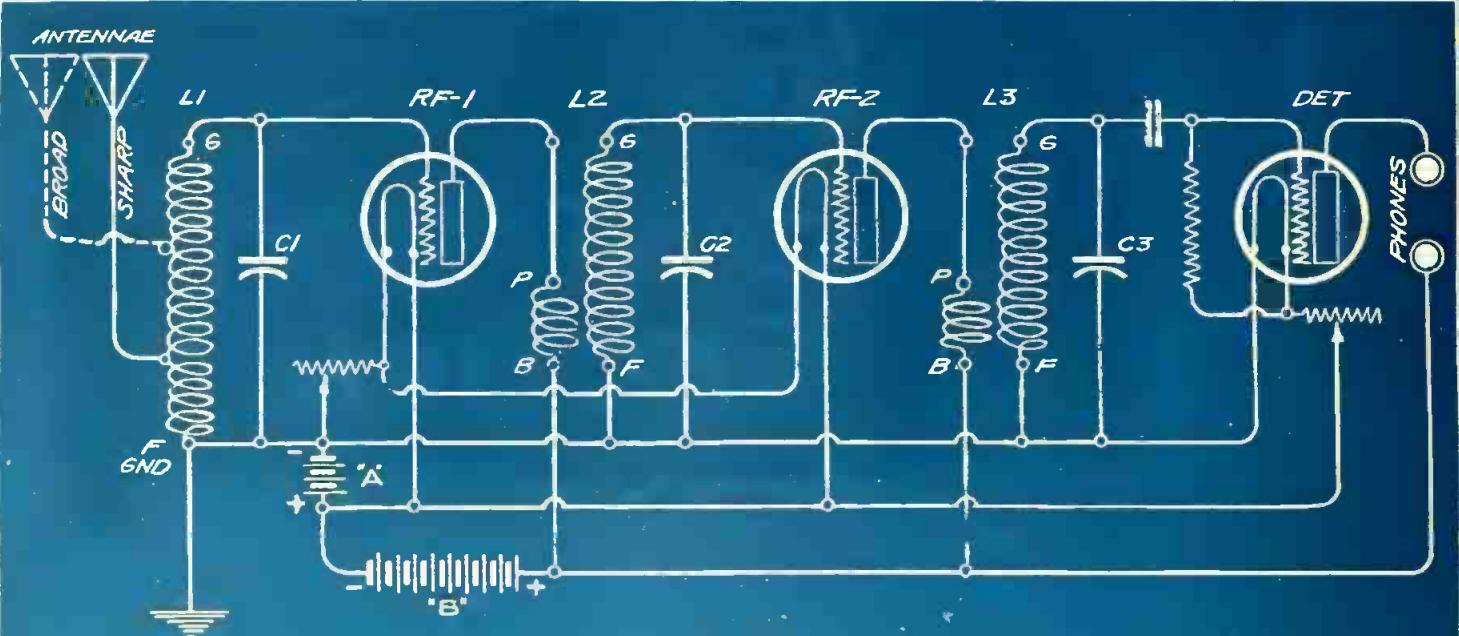
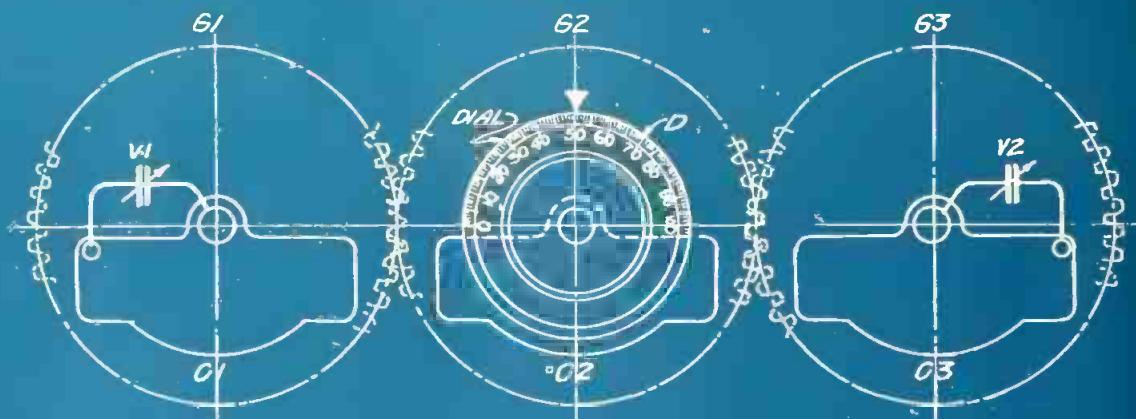
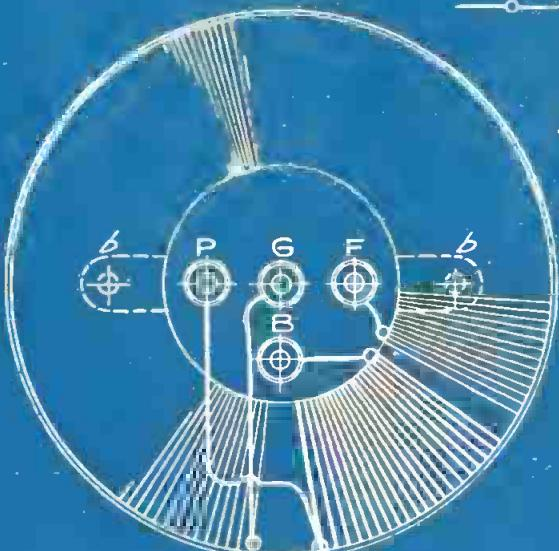

FIG.1
FIG.2
FIG. 7
BEFORE the various tuning methods can be taken up in detail, it will be advisable to examine the circuit diagram of a conventional two stage radio frequency circuit so that the conditions can be more fully understood. In Fig. 1 is shown the circuit of two tuned radio frequency stages and detector, the radio tubes being at (RF-1) and (RF-2) while the detector tube is at (DET). All three tubes are tuned accurately to wavelength by the three variable condensers (C1-C2-C3) connected across the secondary windings of the air-core radio frequency couplers or transformers (L1-L2-L3), and as shown in the diagram, these condenser adjustments may be individual or else they can all be adjusted at one time by means of certain mechanism about to be described.
One method of single dial tuning is to couple the rotors of the three variable condensers (C1-C2-C3) together mechanically by means of gear wheels at (G1-G2-G3) shown in Fig. 2. The electrical connections are made exactly as in Fig. 1, and one movement of the dial (D) mounted on the center shaft of condenser (C2) tunes all three stages simultaneously. While this does not simplify the tuning units to any extent, yet it does reduce the dial control to one operation and for this reason the arrangement has proved quite popular.
Fig. 5 shows a "three-gang" condenser with three independent stators (ST-1, ST-2, ST-3) and a single rotor (R). With this assembly it is possible to tune all three stages of the circuit of Fig. 1 by a single tuning dial mounted on the end of the rotor shaft. A condenser of this sort takes a panel space equal to that of a single condenser, but it is so long that it generally extends the full depth of the cabinet. However, this is not a serious objection as the tube sockets can be rearranged without trouble.
A single circuit coupler is shown by Fig. 6. It consists of a single continuous winding which terminates at the posts (G) and (F) and is tapped at the points (t1) and (t2) for the connection of the antenna. The schematic diagram of the equivalent solenoid coil is shown by Fig. 6A which is lettered to correspond to the coupler drawing. This single circuit coupler is used for the antenna coupler as installed at (L1) in Fig. 1, and the two taps (A1) and (A2) provide for different degrees of sharpness or broadness in the tuning.
A two circuit coil, consisting of an independent primary and secondary, is outlined in Fig. 7. This coil is used as a
GANG condensers consist of a single assembly made up of two or more electrically independent stators and a single rotor which meshes simultaneously with all of the stators with a single dial movement. The principle on which this system works was suggested in the paragraph dealing with the circuit diagram of Fig. 1 where it was stated that the rotors of all variable condensers are connected to the common (-A) line. The use of a single rotor greatly simplifies the construction, and in many cases takes up less space—at least panel space.
radio frequency transformer as at (L2) and (L3) in Fig. 1 and its secondary coil is tuned by a 0.00035 mf. condenser as before. Roughly, the secondary consists of 160 turns of wire in the secondary and 40 turns in the primary, but this is subject to slight variations in the method of winding. As with the coupler coil, this is quite a trick to make at home, and it will be found much surer and will cost no more in the long run to purchase the coils ready made. This will eliminate much of the guesswork and the amateur deals with enough unknown quantities as it is. There are at least three standard makes of these coils now on the market and they can be obtained without difficulty from reliable dealers. A schematic diagram of the coil in solenoid form, is given by Fig. 7A which is lettered to correspond with Fig. 7.
One single variable condenser (0.00035 mf.) is used to tune the antenna coupler, while a two-gang condenser shown at the left tunes both radio frequency transformer by a connection across the coil secondaries as indicated in Fig. 1. By this means we have only two wavelength tuning controls for the five tubes, a control system that is simple to understand and handle and yet is not excessively sharp nor critical. A single dial control with a three-gang condenser is so long that it interferes seriously with the layout scheme determined upon for the sockets, and is not so easy to handle as the circuit arrangement finally adopted.